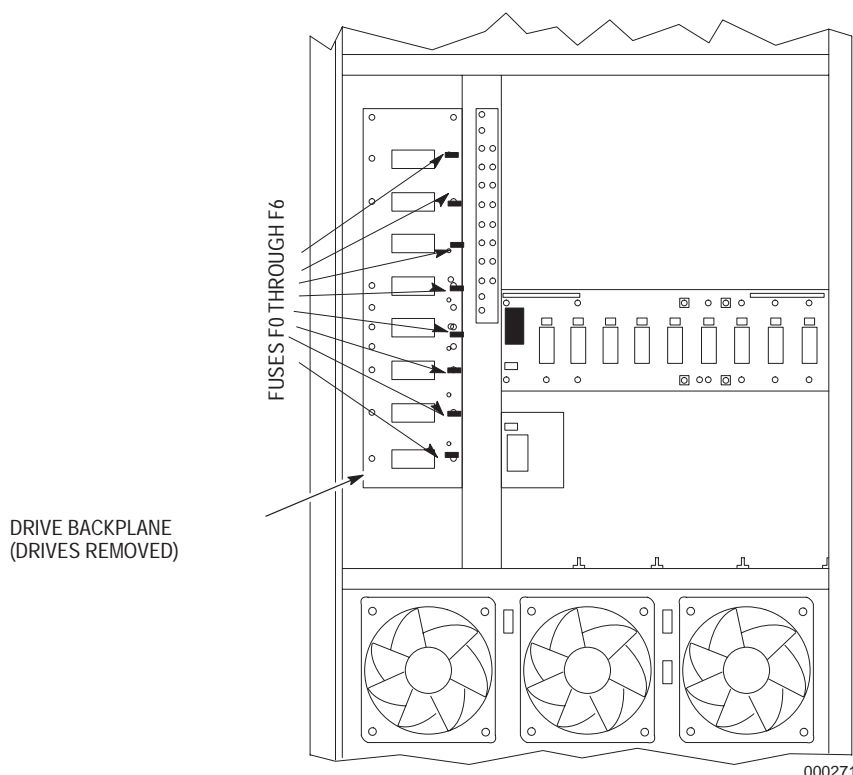

Figure 11-16. Fuses on the Drive Backplane (Front View).
5. When the **ENTER BOOT COMMAND:** prompt appears, turn off the power to the server by switching the main-power circuit breaker on the back of the power distribution tray to the OFF position (0).
9. Replace any blown fuses. The locations of the fuses are shown in Figure 11-16.